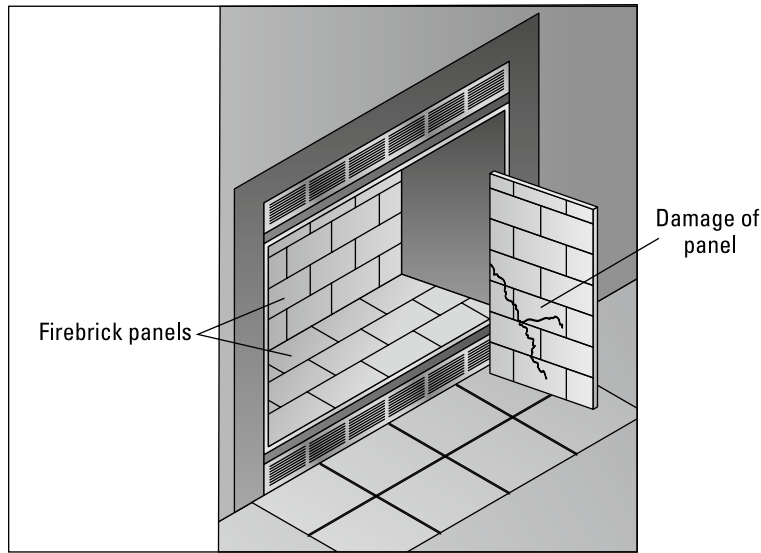

FIGURE 15-1:
- » **A prefabricated metal fireplace** is factory built and installed on-site. The metal box contains firebrick panels (see Figure 15-1), called *refractory brick panels*, that line the sides, back, and bottom of the firebox. The flue for a prefabricated fireplace consists of a metal pipe that is concealed by a chimney constructed of plywood or another siding material.